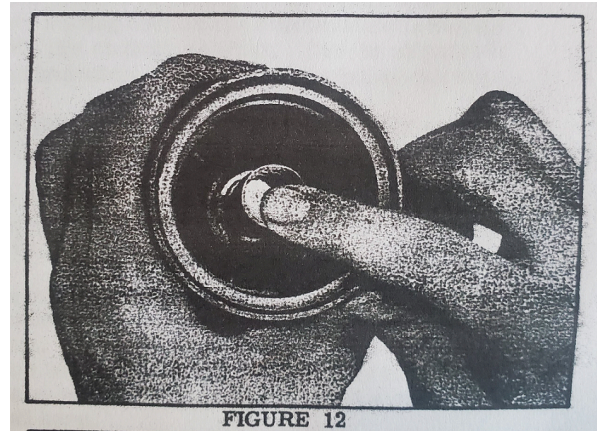

FIGURE 12
5. Check whether piston tube is properly sealed by placing index finger on end of the tube and, without force, attempt to wiggle (Figure 12). There should be no movement of the piston tube.